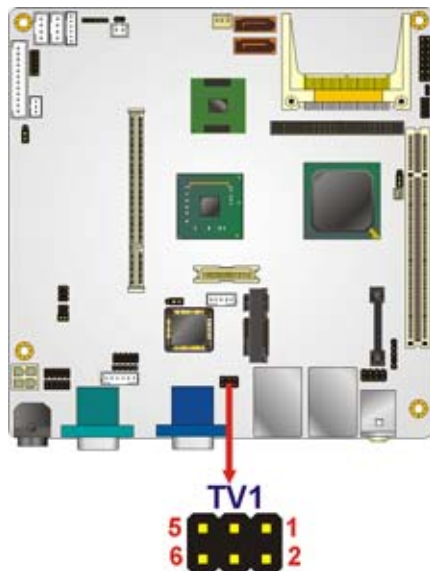

Figure 4-22: TV Connector Pinout Locations
- CN Location:** See **Figure 4-22**